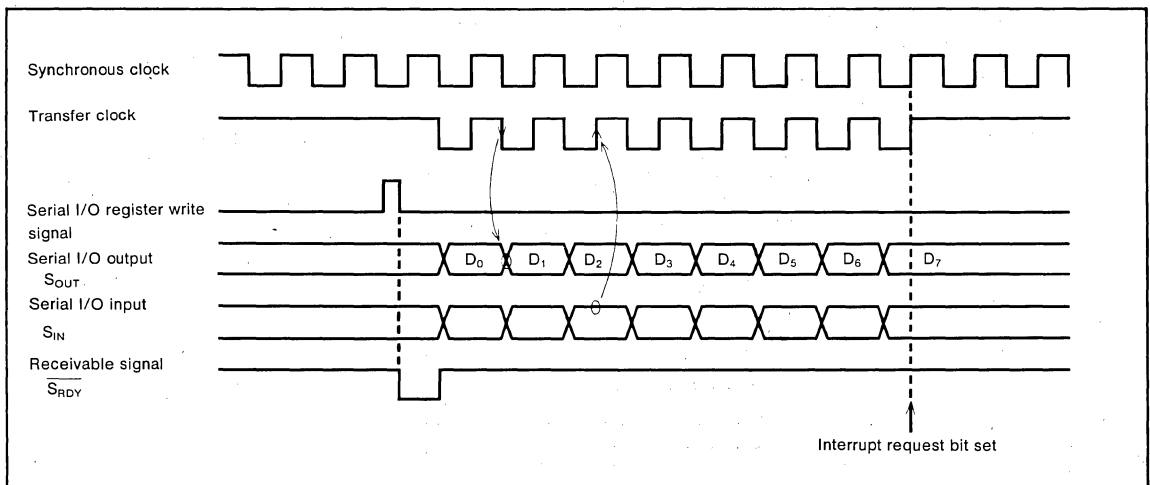
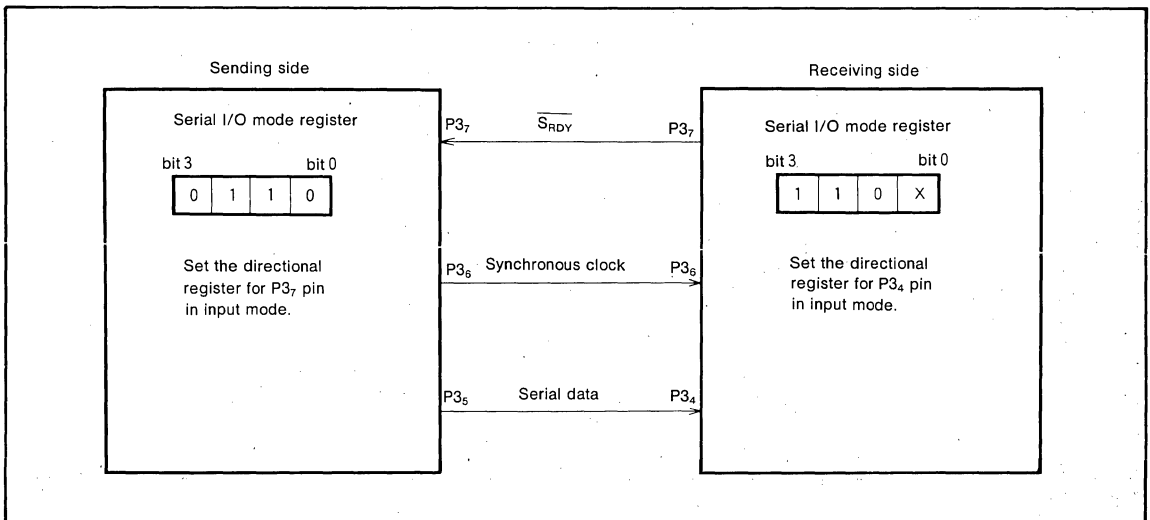

Fig.7 Serial I/O timing
Fig.8 Example of serial I/O connection
**External Clock**—If an external clock is used, the interrupt request will be sent after the transfer clock has counted 8 times but transfer clock will not stop. Due to this reason, the external clock must be controlled from the outside. The external clock should not exceed 250kHz at a duty cycle of 50%. The timing diagram is shown in Figure 7. An example of communication between two M50745-XXXSPs is shown in Figure 8.